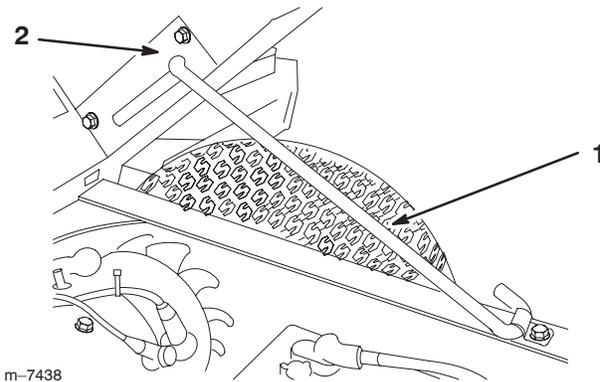

Figure 23
2. Pull the prop rod into the detent slot, securing the box (Fig. 23).